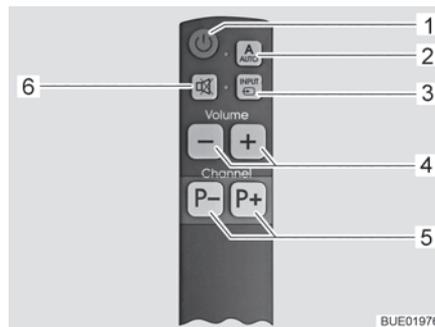

Fig. 54 Simplified remote control (optional)
- Press the AUTO button (Fig. 53,2 or Fig. 54,2) for 1 second. Thus, the television and the advance unit are switched on.
- Press the programme selection buttons (Fig. 53,4 or Fig. 54,5) until the desired TV programme has been selected.
- Press the INPUT button (Fig. 53,3 or Fig. 54,3) repeatedly until the desired signal source has been selected.
- To return to the satellite channels display, press the INPUT button (Fig. 53,3 or Fig. 54,3) repeatedly until the signal source DVB-S2 has been selected.
- Press the AUTO button (Fig. 53,2 or Fig. 54,2).
- Press the Television on/off button (Fig. 53,1 or Fig. 54,1). The advance unit is not switched on, the antenna remains in parking position.
- Press the INPUT button (Fig. 53,3 or Fig. 54,3) repeatedly until the desired signal source (e.g. DVD) has been selected.
- Press the Television on/off button (Fig. 53,1 or Fig. 54,1) to switch the television off.